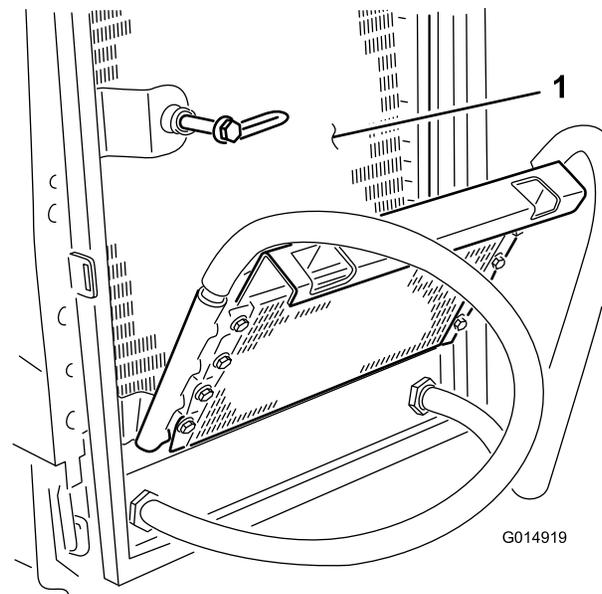

Figure 60
7. Thoroughly clean both sides of the oil cooler and the radiator (Figure 60) with compressed air.